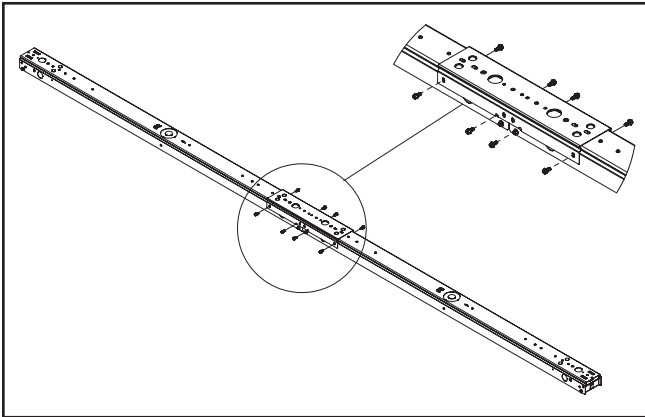

Figure 4.
4. Install screws to secure Channel Joiner. (Figure 4.)